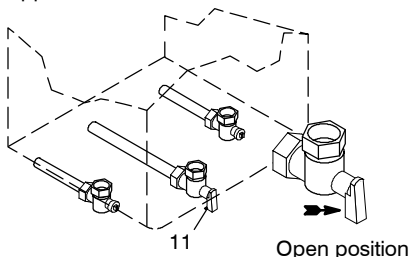

Fig. 7.1
- 2 Open the gas cock 11 (Fig. 7.1) on the appliance and check the gas connector on the appliance for leaks.